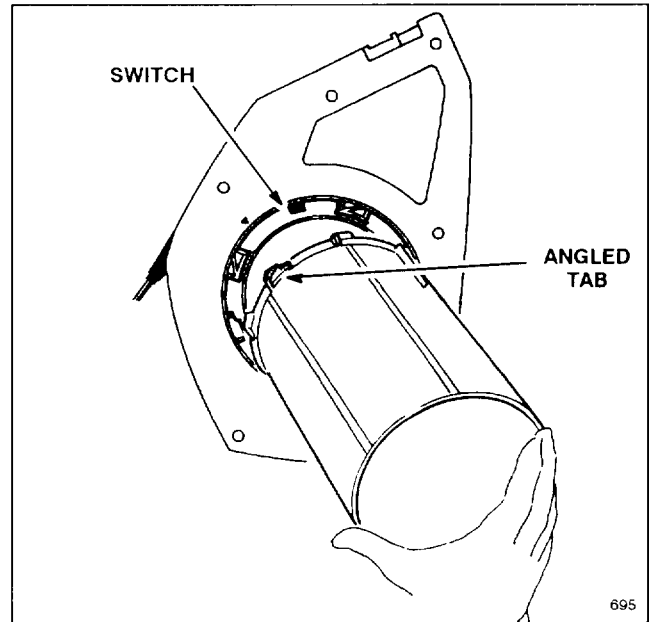

Figure 6
4. Position upper vacuum tube as shown in Figure 6. Angled tab must be to the left side of switch.